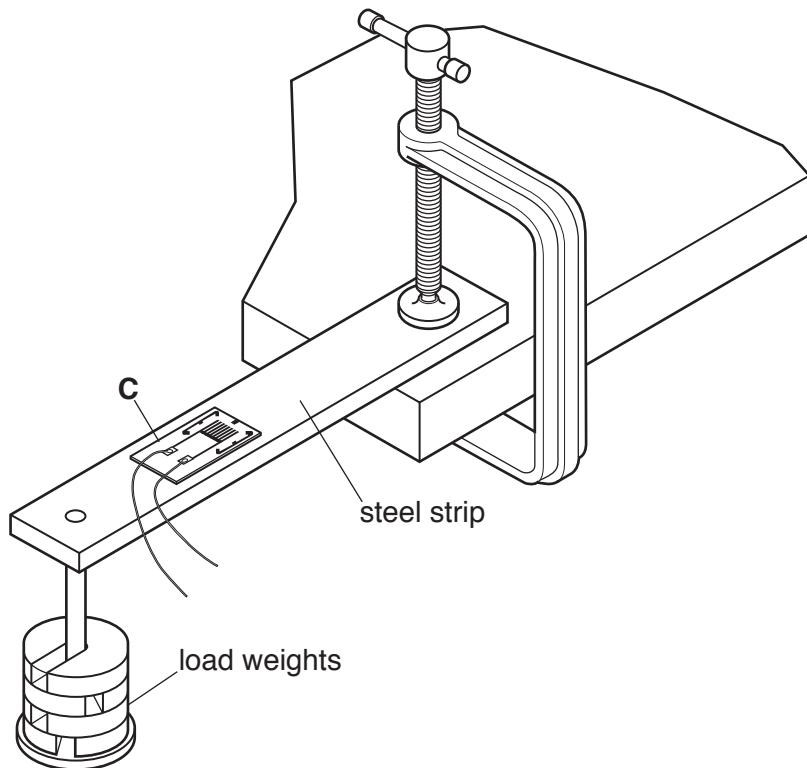

Fig. 4
- 8 (a)** Fig. 4 shows a steel strip in a test rig.